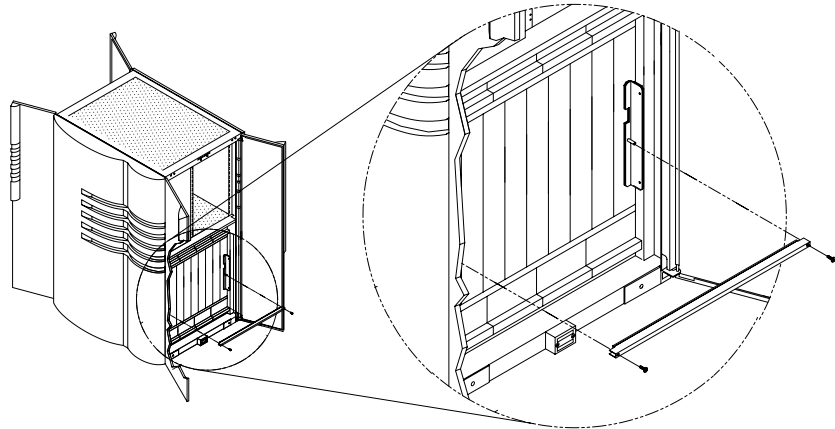

FIGURE 5-4 Installing the System Board Retaining Bracket
- 5. Attach the system board retaining bracket (P/N 340-4348-01) to the right and left side brackets with the two M5 x 12 Phillips pan head screws (P/N 240-2864-01) provided in the packing kit (FIGURE 5-4).**